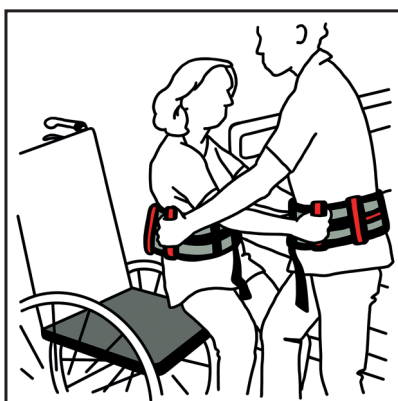

Figure 3
- The user can then be turned towards the wheelchair. Once the required position in front of the wheelchair has been reached, the user can slowly be seated in the wheelchair (Figure 3).